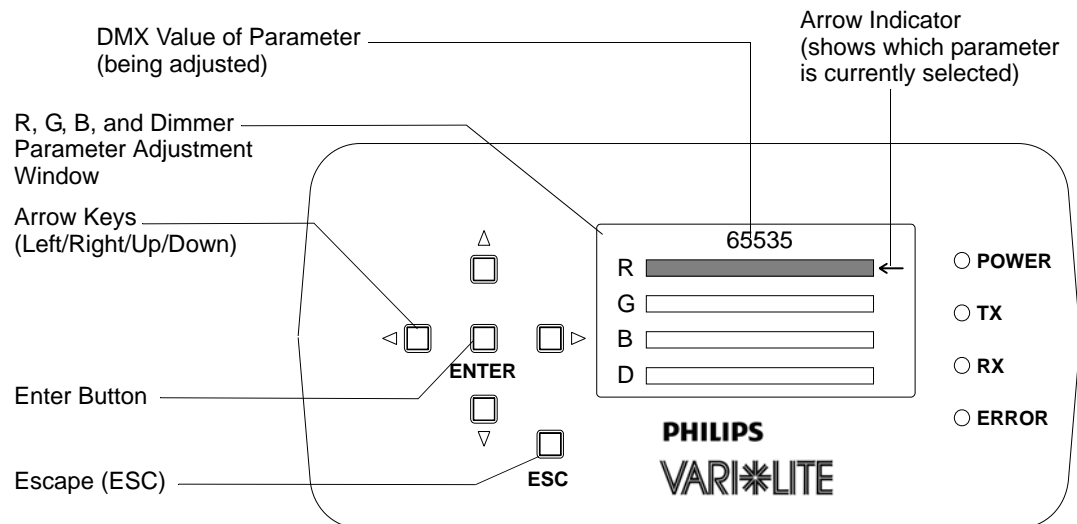

Figure 1-1: Manual Color Adjustment - LCD Display
As shown in Figure 1-1, a window will appear in the LCD Display that will allow access to Red (R), Green (G), Blue (B), and Dimmer (D) parameters that can be adjusted as necessary.